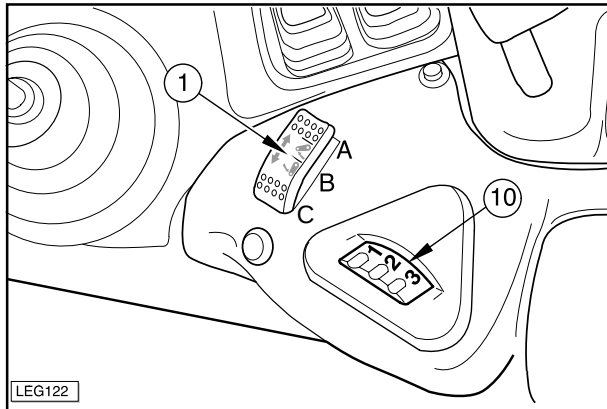

Fig. 4-75
To use the external controls, just press on the buttons to raise or lower the lift arms. Now enable the power lift control panel by means of the switch (1 - Fig. 4-75).
- To enable the control panel controls after the external ones have been used, release the safety device by setting the switch (1 - Fig. 4-75) to Pos. A and then to working position (C).